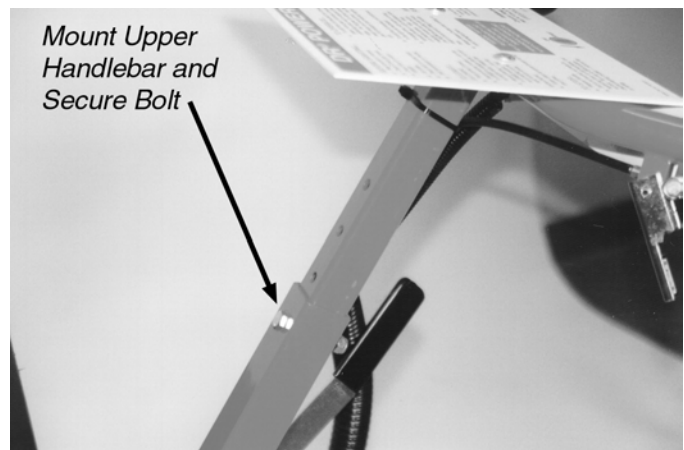

Figure 2
2. Position the upper handlebar inside the lower handlebar, mount the 5/16" x 1-1/2" bolt and secure it with the 5/16" lock nut (*Figure 2*). You may adjust the handlebar height at any time by removing the bolt and repositioning the upper handlebar in a different hole.